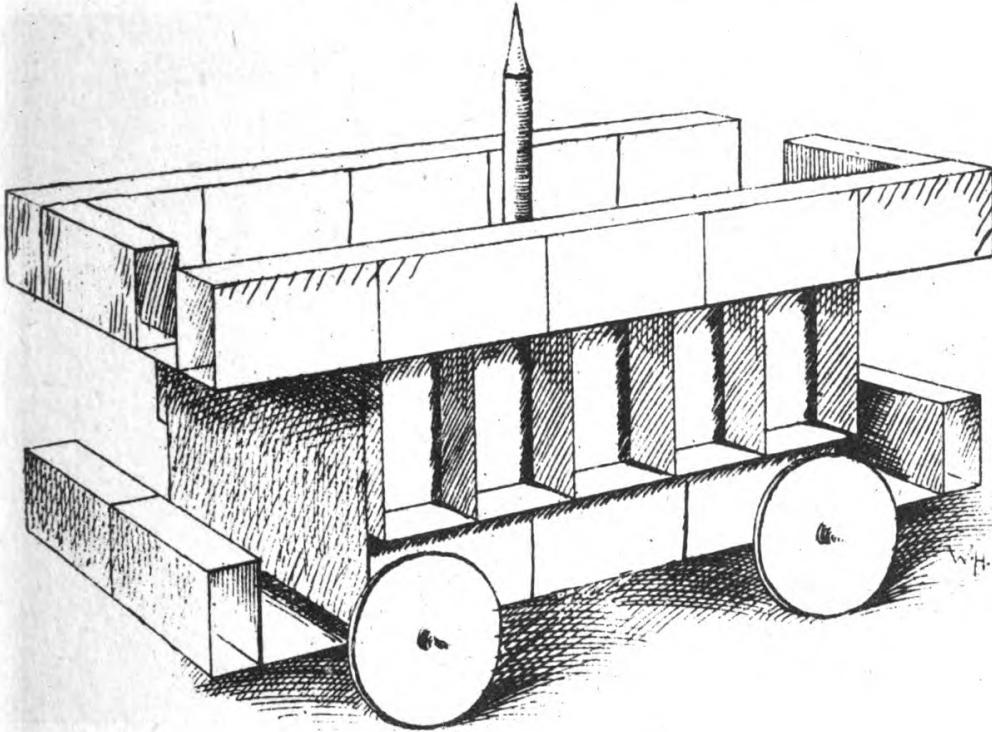

FIG. 24.
*Tram Car*.—In the first place you want two pieces of veneer or cardboard, measuring  $11\frac{1}{4}$  by  $4\frac{3}{4}$  in. and  $11\frac{1}{4}$  by 5 in. —to act respectively as the lower and upper decks. The actual method of construction can best be understood by a careful study of Fig. 24. The lower deck rests on four cardboard wheels. These are fixed by means of doll pins to two wooden axles (match stales) glued right across the under side